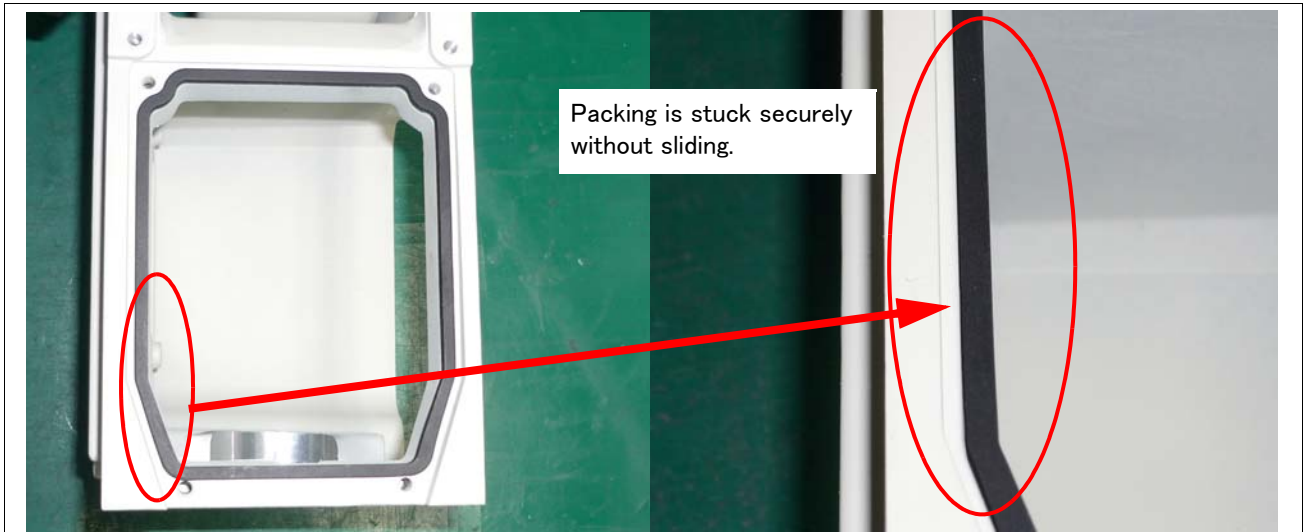
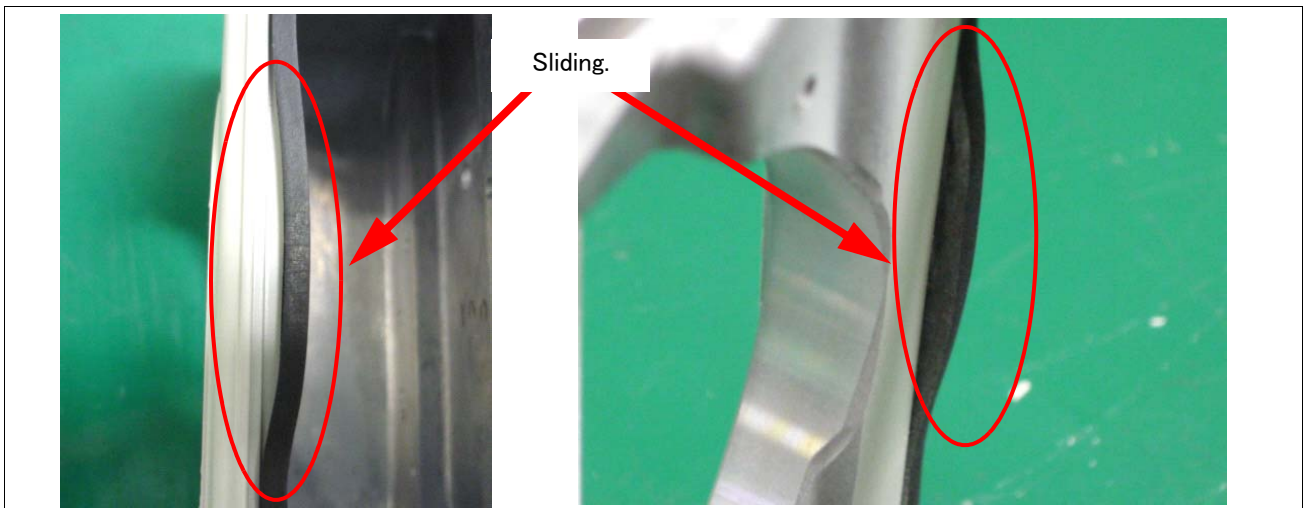

Fig.5-4 : Example of sticking packing (good example)
Fig.5-5 : Example of sticking packing (bad example)
- 2) The sticking surface of packing is double-coated adhesive tape. Referring to "Fig.5-4 : Example of sticking packing (good example)" and "Fig.5-6 : Sticking the cord-like packing", and stick the packing in line with form . Be careful for the packing not to slide. The example of unsuitable packing slid is shown in "Fig.5-5 : Example of sticking packing (bad example)".